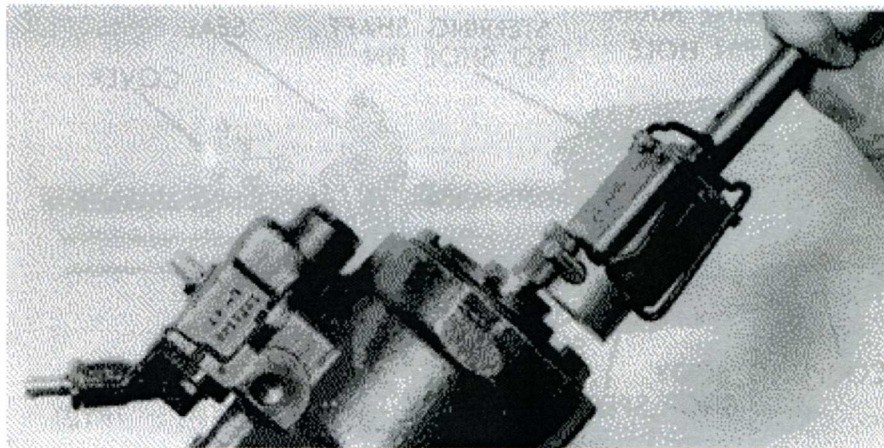

FIGURE 4: STEERING COUPLING TO GEAR ALIGNMENT
(Figures 4 & 5)
3. Rotate clamp so that long legs are on roll pin side of coupling. (Figure 4)